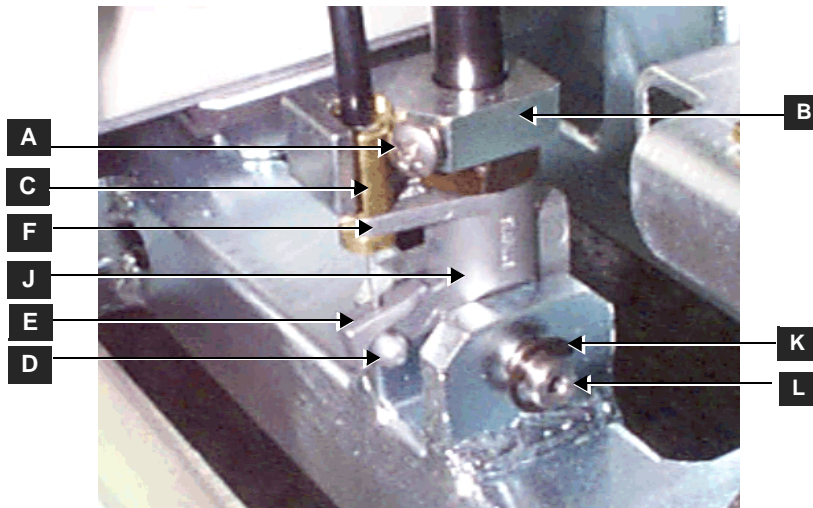

Figure 8-89 Gas Spring - Lower End and Cable
**Note:** In the following steps, all the gas spring components indicated by letters can be seen in Figure 8-89 and Figure 8-90 "Gas Spring Lower End Cable - Close-up View" on page 8-106.
- 7) Turn the cable holder (B) to free the cable end sleeve (C) then remove the cable end stopper (D) from the trigger arm (E).
- 8) Remove the retaining washer (K) from the pin (L) at the lower end of the gas spring.
- 9) Insert the Hex M8x80mm screw in the appropriate hole to the left of the compartment at its base, and then tighten the screw until the pin (L) at the lower end of the gas spring is loose enough to be removed, and remove the pin.
**Note:** All the gas spring components indicated by letters in the following steps can be seen in Figure 8-91, above and Figure 8-89 and Figure 8-90 "Gas Spring Lower End Cable - Close-up View" on page 8-106.
- 2) Insert the upper pin (N) and secure it with the retaining washer (M). You may have to adjust the M8x80mm screw before inserting the pin.
- 3) Insert the lower pin (L) and secure it with the retaining washer (K). You may have to adjust the M8x80mm screw before inserting the pin.
- 4) Fit the cable end stopper (D) on to the trigger arm (E).
- 5) Fit the groove of the cable end sleeve (C) on the hinge (F) of the gas spring head.
- 6) Turn the cable holder (B) over the cable end sleeve (C), and then fasten it with the securing screw (A).